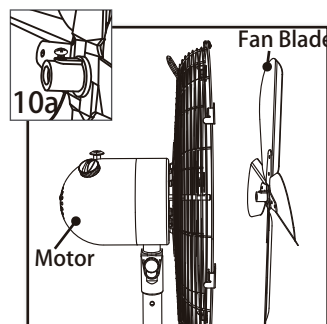

Figure 10
12. Loosen the screw on the back of the blade assembly. Figure 10a. Slide the blade assembly onto the motor shaft. Figure 10.